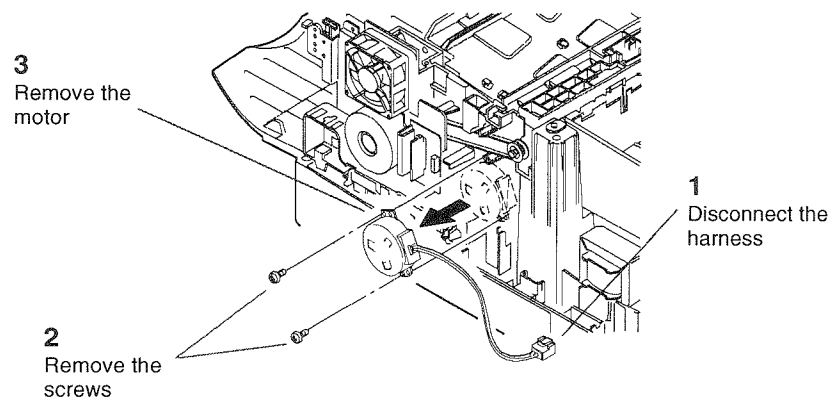

Figure 1 Removing the Toner Motor
4. ( Figure 1): Remove the Toner Motor.